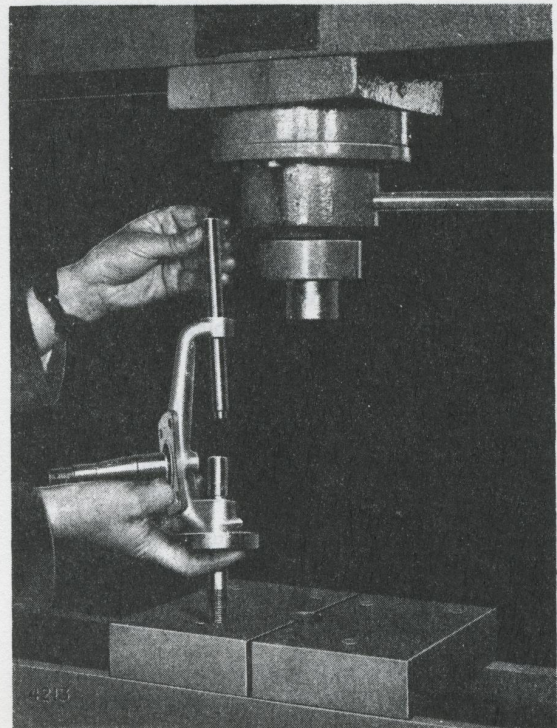

Fig. 16. Preparation for removing pin, using special tool RG.193
- 1 Pass the large abutment collar over the swivel pin and place the stub axle assembly on the bed plate of the press, with the stub axle supported by the collar (Fig. 16).